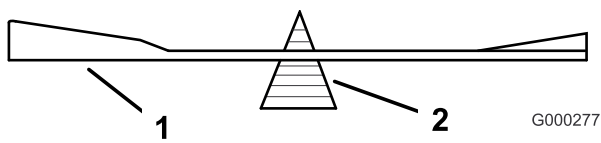

Figure 55
2. Check the balance of the blade by putting it on a blade balancer (Figure 55). If the blade stays in a horizontal position, the blade is balanced and can be used. If the blade is not balanced, file some metal off the end of the sail area only (Figure 53). Repeat this procedure until the blade is balanced.